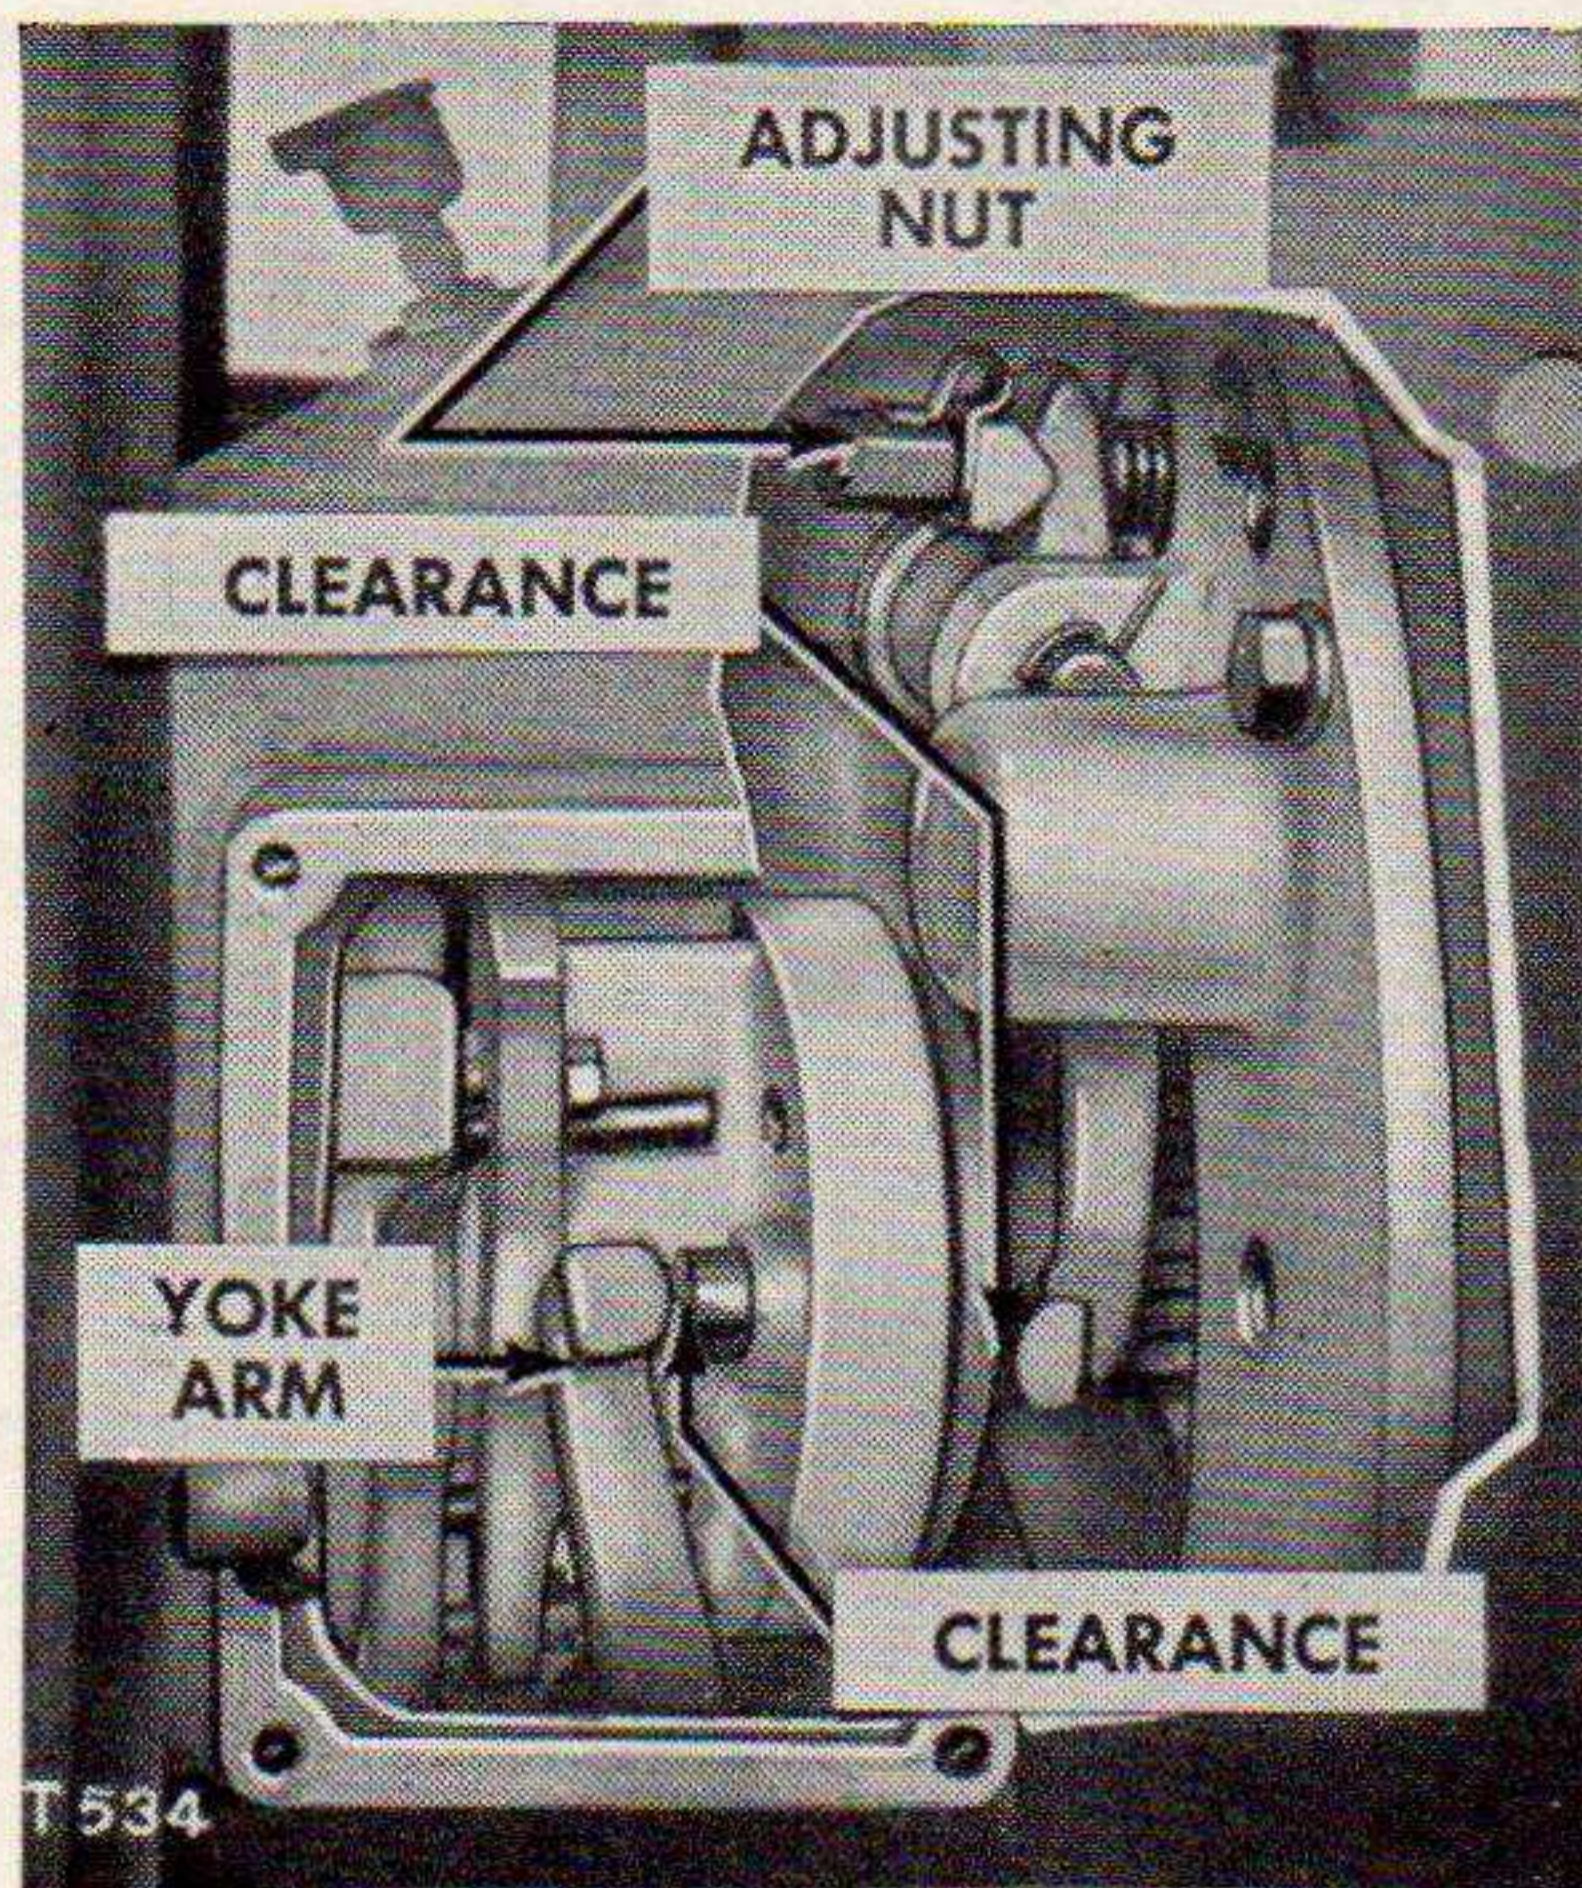

Figure 101. Adjusting flywheel clutch.
*b. CLUTCH ADJUSTING PROCEDURE.* (See fig. 101.)
- (1) *Remove inspection plate.* Remove inspection plate from the left side of the flywheel clutch case.
- (2) *Locate adjusting nut.* Rotate the flywheel until the adjusting nut of one lever can be turned and the clearance checked through the inspection opening.
- (3) *Turn adjusting nut.* Turn each adjusting nut counterclockwise to restore the clearance of  $\frac{3}{16}$  inch between the end of each release lever and the face of the release bearing.
- (4) *Check clearance.* Check the clearance between the end of the release lever and the face of the release bearing. The square